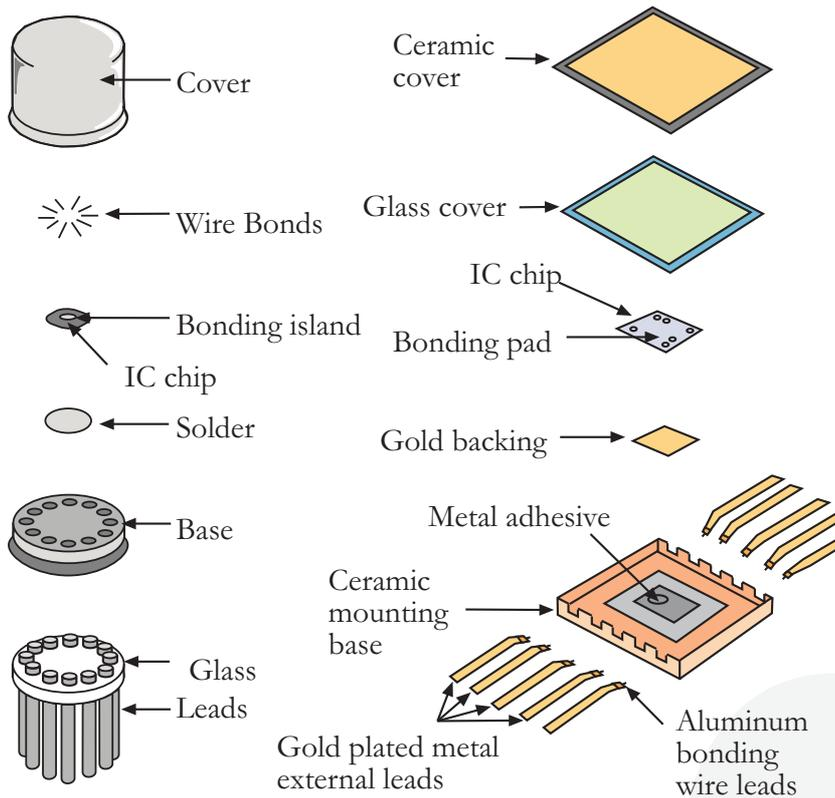

Figure 4.1 – A Typical IC Packaging Sequence
Integrated circuits are being used in an ever-increasing variety of applications. Small size and weight and high reliability make them ideally suited for use in airborne equipment, missile systems, computers, spacecraft and portable equipment. They are often easily recognised because of the unusual packages that contain the integrated circuit. Two (2) typical packaging arrangements are shown in figure 4.1.